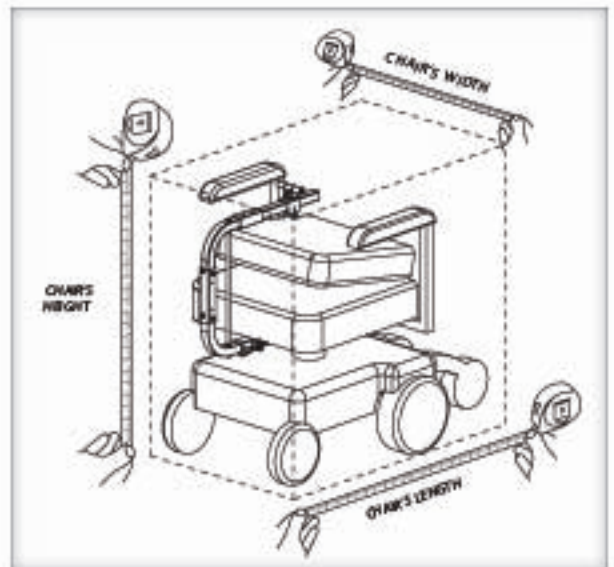

Figure 16-3
2. Fold the chair or scooter's seat back (or remove seat), preferably with the docking device attached, to roughly observe the chair's transportable dimensions. Measure length, width and height. [Figure 16-3]